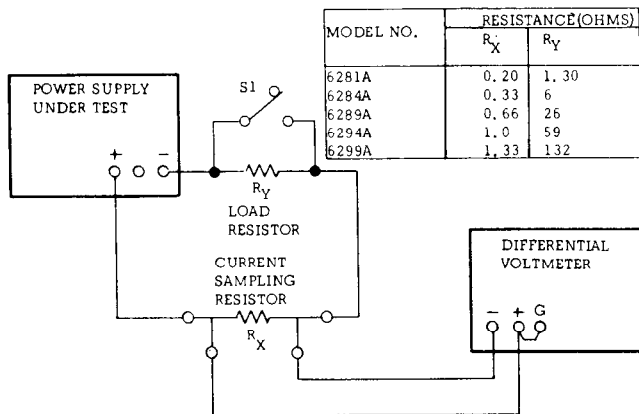

Figure 5-4. Output Current, Test Setup
- Connect test setup shown in Figure 5-4 leaving switch S1 open.
- Connect test setup as shown in Figure 5-4.
a. Utilize test setup shown in Figure 5-4 leaving switch S_1 open throughout test.
a. Use test setup shown in Figure 5-4, except connect AC voltmeter across sampling resistor instead of differential voltmeter.